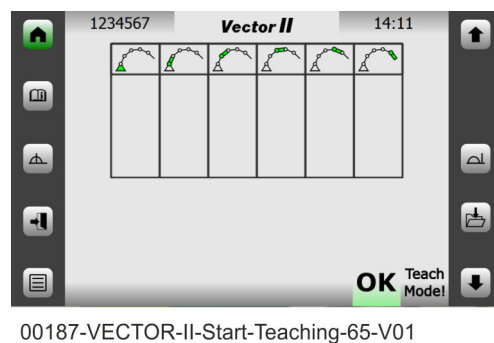

Fig. 110 Teach mode operating mode
9. The "Teach mode" start window (**Fig. 110**) appears and the "OK" display appears.